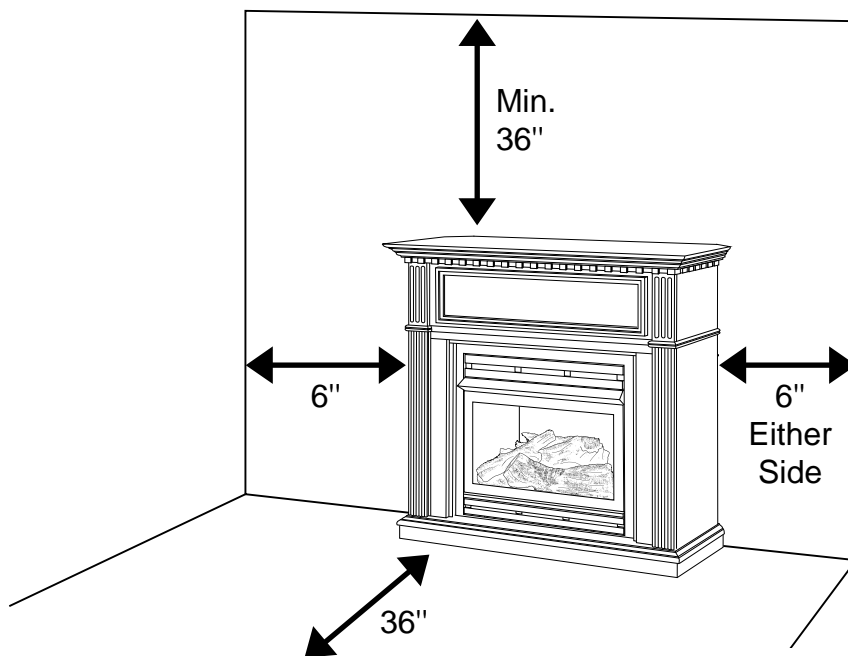

Fig. 6 - Minimum Clearance to Combustible Material
IMPORTANT: Maintain the minimum clearances shown in Figure 6 on page 12. If you can, provide greater clearances from floor, ceiling and joining wall.
A. Clearances from the side of the fireplace cabinet to any combustible material and wall should follow diagram in Figure 6.
The installer must supply an external regulator for liquid propane. The external regulator is provided by the gas supplier for natural gas. The external regulator will reduce incoming gas pressure. You must reduce incoming gas pressure to between 11 and 14 in. of water column for propane and between 5 and 11 in. of water column for natural gas. If you do not reduce incoming gas pressure, heater regulator damage could occur. Install external regulator with the vent pointing down as shown in Fig. 6. Pointing the vent down protects it from freezing rain or sleet.